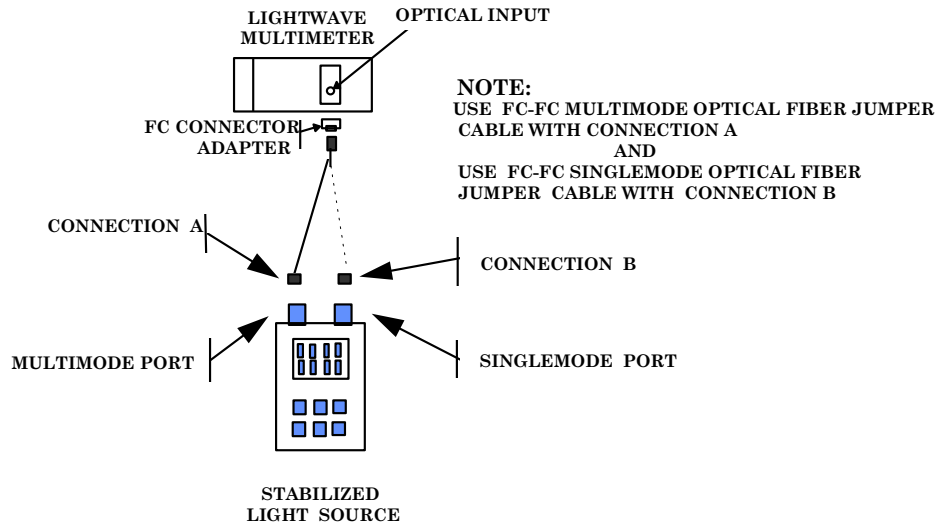
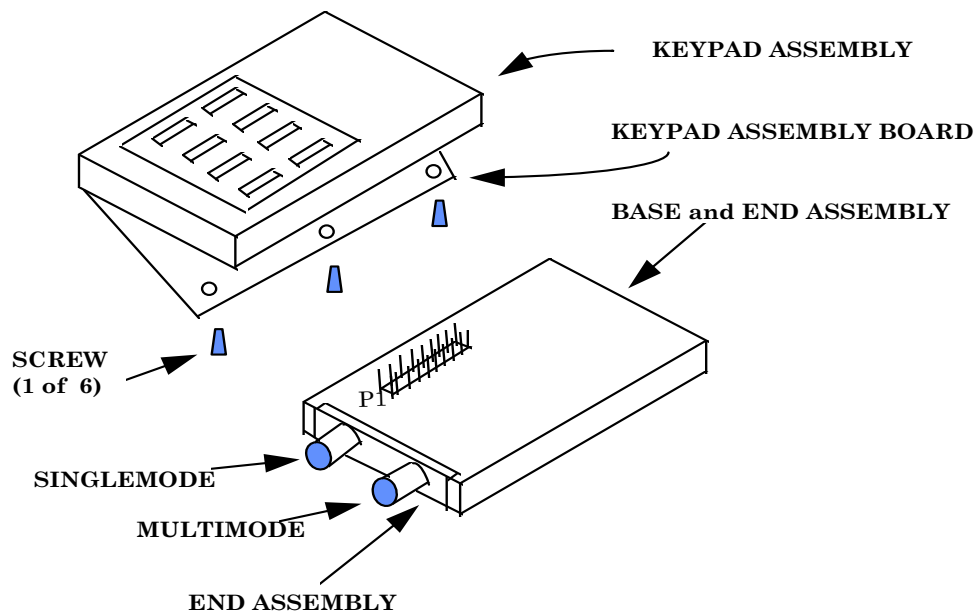
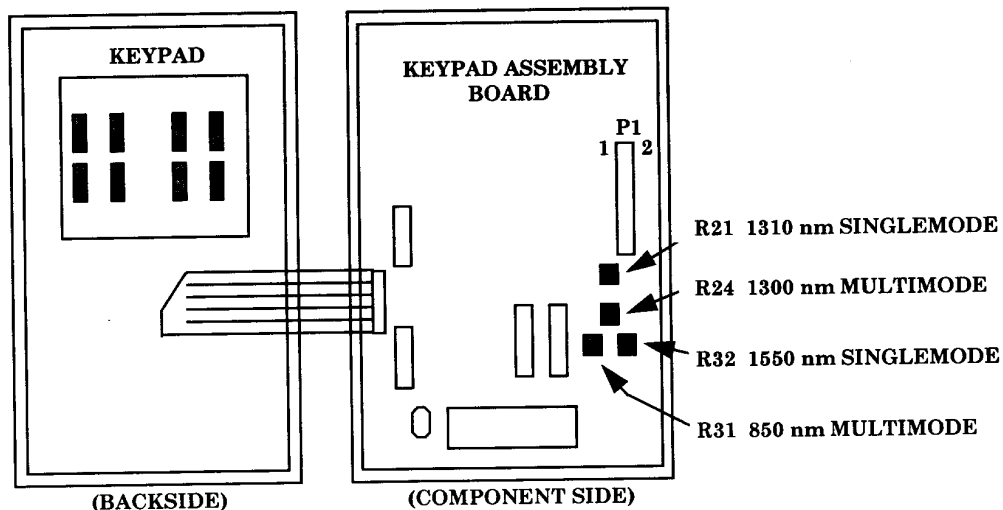

Figure 4. SLS test setup.
Figure 5. SLS keypad assembly, base and end assembly separation.
Figure 6. Keypad and keypad assembly board – adjustment locations.
- (1) Remove SLS from rubberized case and record actual output wavelengths as indicated by manufacturer label located on back of case.
- (2) Connect SLS to lightwave multimeter as shown in figure 4, CONNECTION A.
- (4) Set lightwave multimeter to measure dBm at actual output wavelength recorded in paragraph **9 a** (1) for 850 nm.
(5) Press **MULTIMODE 850/1300** pushbutton. **MULTIMODE 850 nm** annunciator will illuminate.
(6) Lightwave multimeter will indicate between -22.50 and -17.50 dBm; if not, perform **b** (1) through (11), and (19) through (24) below.
(7) Set lightwave multimeter to measure dBm at actual output wavelength recorded in paragraph **9 a** (1) for 1300 nm.
(8) Press **MULTIMODE 850/1300** pushbutton. **MULTIMODE 1300 nm** annunciator will illuminate.
(9) Lightwave multimeter will indicate between -22.50 and -17.50 dBm; if not, perform **b** (1) through (9), (12), (13), and (19) through (24) below.
(10) Press **MULTIMODE 850/1300** pushbutton (all annunciators except **SUPPLY NiCd** will extinguish).
(11) Connect equipment as shown in figure 4 CONNECTION B.
(12) Set lightwave multimeter to measure dBm at actual output wavelength recorded in paragraph **9 a** (1) for 1310 nm.
(13) Press **SINGLEMODE 1310/1550** pushbutton. **SINGLEMODE 1310 nm** annunciator will illuminate.
(14) Lightwave multimeter will indicate between -28.50 and -23.50 dBm; if not, perform steps **b** (1) through (8), (14), (15), (16), and (19) through (24) below.
(15) Set lightwave multimeter to measure dBm at actual output wavelength recorded in paragraph 9 a (1) for 1550 nm.
(16) Press **SINGLEMODE 1310/1550** pushbutton. **SINGLEMODE 1550 nm** annunciator will illuminate.
(17) Lightwave multimeter will indicate between -28.50 and -23.50 dBm; if not, perform b (1) through (7), (14), (9), and (17) through (24) below.
- (1) Ensure SLS power is **OFF**.
- (2) Remove six screws from back of SLS case.
- (3) Turn SLS face up.
- (4) Carefully separate **KEYPAD ASSEMBLY** from **BASE and END ASSEMBLY** (fig. 5).
(5) Place **KEYPAD ASSEMBLY** face down and remove six screws from back of **KEYPAD ASSEMBLY BOARD** (fig. 5).
(6) Carefully reconnect **KEYPAD ASSEMBLY BOARD** to **BASE and END ASSEMBLY** (fig. 5). Ensure P1 pins are straight before connecting **KEYPAD ASSEMBLY BOARD** (fig. 5).
(7) Carefully lift keypad from **KEYPAD ASSEMBLY BOARD** (fig. 5) to gain access to adjustments.
- (8) Ensure SLS is connected to lightwave multimeter as shown in figure 4 CONNECTION A.
- (9) Press **ON/OFF** pushbutton to **ON**.
- (10) Press **MULTIMODE 850 nm/1300 nm** pushbutton for output of 850 nm.
- (11) Adjust R31 850 nm MULTIMODE for -20.00 dBm indication on lightwave multimeter (fig. 6) (R).
- (12) Press **MULTIMODE 850 nm/1300 nm** pushbutton as necessary for 1300 nm output.
- (13) Adjust R24 1300 nm MULTIMODE (fig. 6) for -20.00 dBm indication on lightwave multimeter (R).
- (14) Ensure SLS is connected to lightwave multimeter as shown in figure 4, CONNECTION B.